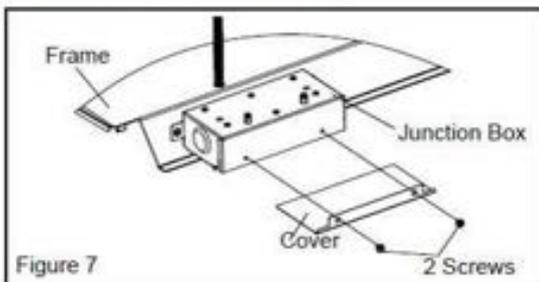

Figure 7
3. Remove the junction box cover (2 screws). Take the power cord and make it get into the box through the strain relief that is provided (see Figure 7).
2. As shown in Figure 7, the indoor unit has one set of control signal wires, with 1 wiring terminals in total.